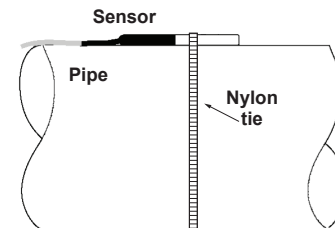

Figure 2 - Installing the TE-704-A Sensor
- Position the sensor flat against the pipe and fasten with a hose clamp or nylon ties (*not provided*). Refer to **Figure 2**.